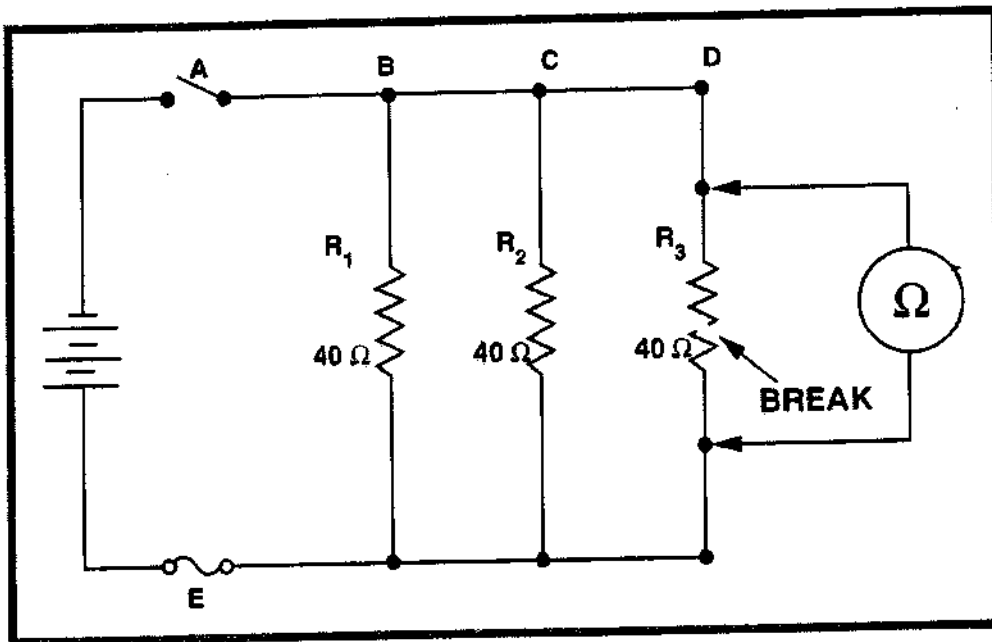

Fig. 9.6. Circuit Diagram.
23. (Refer to figure 9.6) If resistor R_3 is disconnected at terminal D, what will the ohmmeter read ?